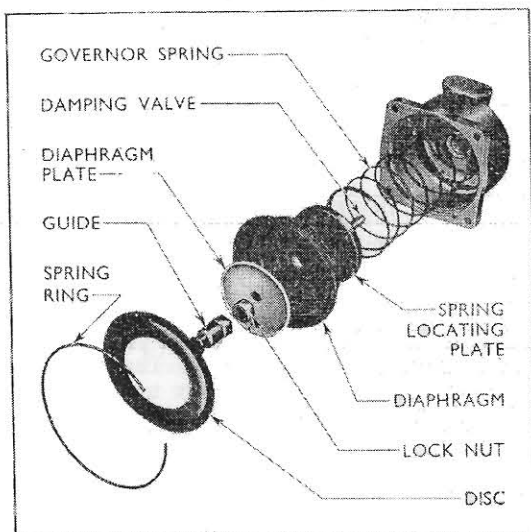

Fig. 9.
5. Fit the new diaphragm and plate and screw on the locknut and guide. Ensure that all the parts comprising the diaphragm assembly are fitted in the correct order (see Fig. 9) and the damping valve ball joint is lightly oiled.